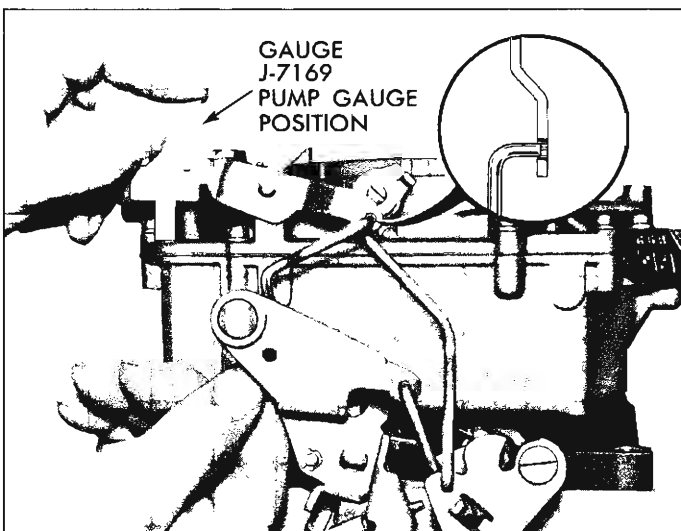

Fig. 20—Pump Rod Adjustment
- **Pump Rod Adjustment**—Back off idle screw to allow primary valves to close and remove pump rod to pump lever clip. To check and adjust pump lever rod, place gauge J-7169 on bowl cover and insert pump plunger rod in hole marked "Pump" as shown in Figure 20. Pump lever rod should enter pump lever freely. If necessary, bend arm with Tool J-4552 at upper angle of pump rod, then assemble pump rod to pump lever and secure with clip.